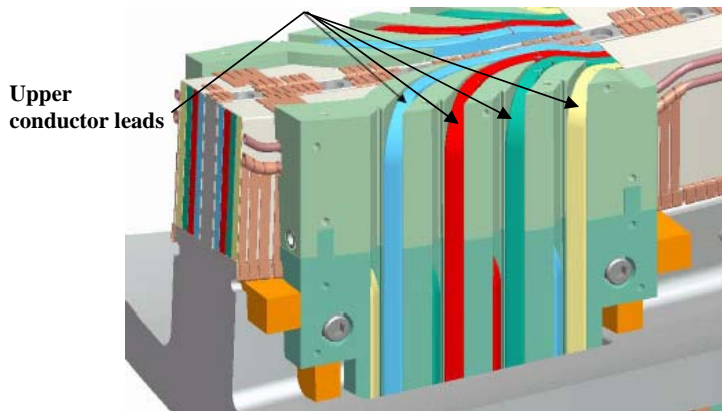

Figure 30- Upper Lead Blocks and Leads
- 6.37.2 Position the last layer of conductors [4 each side] on sides “A” and “B” into the conductor slots in the upper lead guide block. Care must be taken during this operation, to minimize any damage to the over wrap insulation. Figure 30- Upper Lead Blocks and Leads